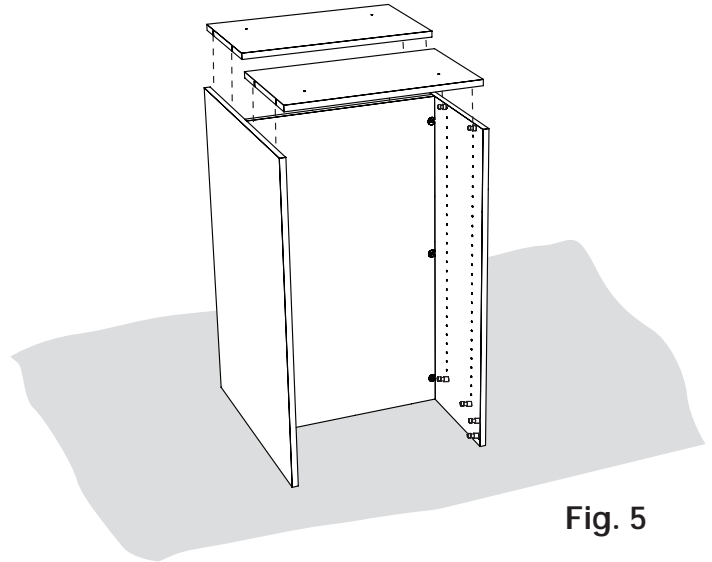

Fig. 5
4. Bring two top panels down (on each side of divider) onto top screw-in studs in side panels. Tighten all cams on both facing sides. (See Fig. 5.)